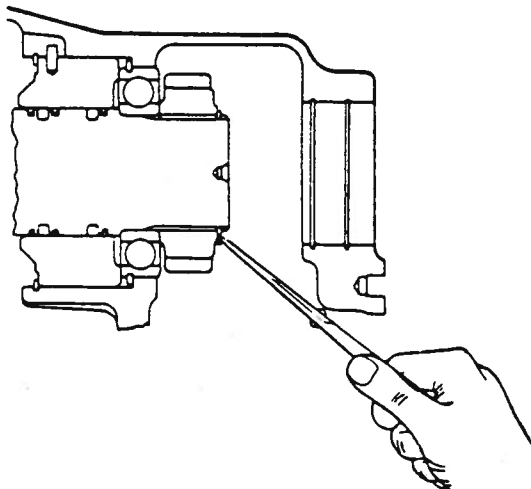

Figure 8-5. Forward Shaft Gear Retaining Ring Installation
- b. Position the forward clutch assembly in transmission housing. Use caution as not to damage piston rings (95). Tap clutch assembly into position.
- c. Position forward shaft gear (90) on shaft and install retaining ring (89) (see figure 8-5). Install bore plug (88, figure 5-40).